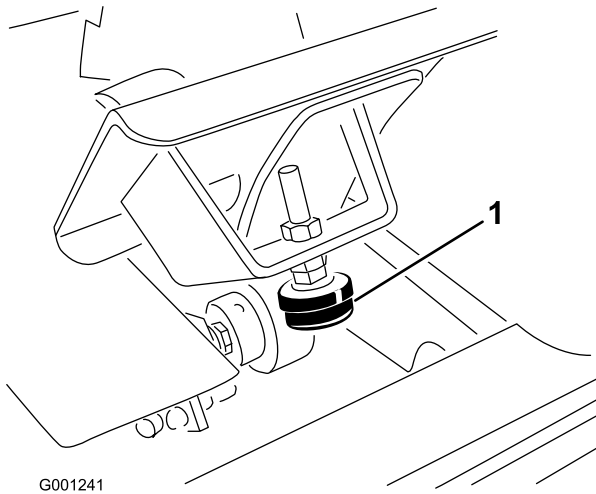

Figure 66
1. Check the traction pedal stop adjustment. The pedal stop (Figure 66) should contact the frame slightly before the pump reaches full stroke.